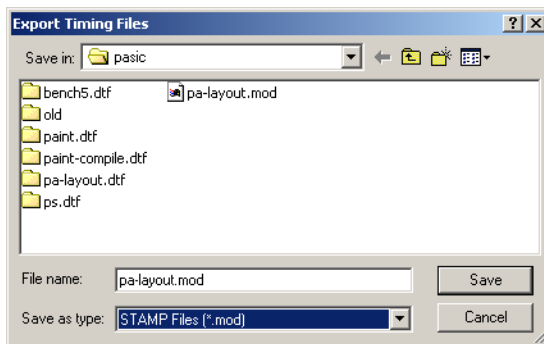

Figure 2-34. Export Timing Files Dialog Box
1. **In the File Menu, click the *Timing* export option from the **Export sub-menu**.** This displays the Export Timing Files dialog box, as shown in Figure 2-34.